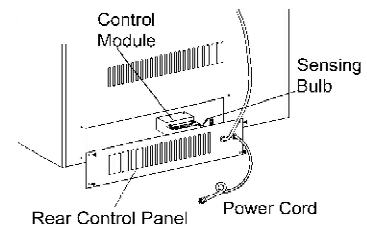
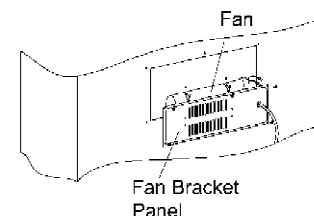
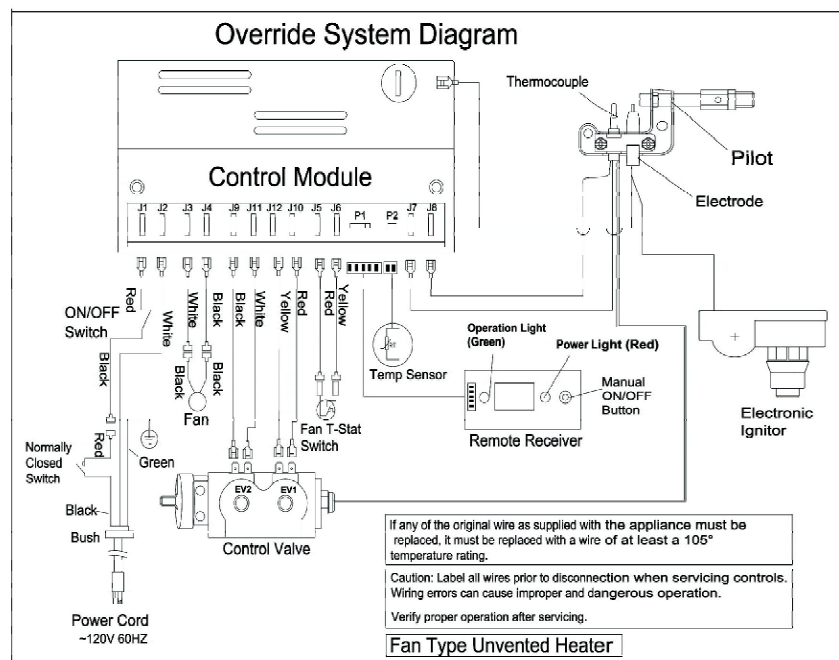

Figure 21 - Control Module Access
Figure 22 - Fan Access
Figure 25 - Override Control System Diagram
2. Remove two screws and hex nuts, securing control module. When installing, reverse the steps above. (See Figure 21 and Figure 25)
2. Mark or tag each wire removed for its exact reconnection. Remove the four screws from the fan. When installing, reverse the steps above. (See Figure 22 and Figure 25)